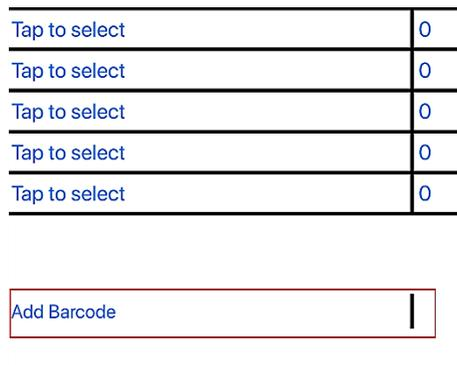

Figure C2. "Add Barcode"
2. After selecting the specimen type and quantity, under the specimen selection rows, tap “Add Barcode”. (Figure C2)